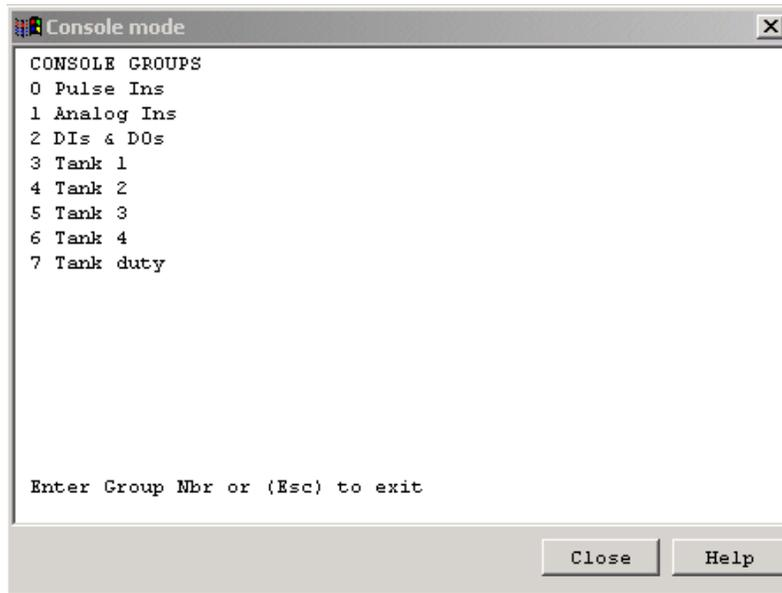

Figure 3–1 Console Mode, Initial Screen
- 5) The initial screen may appear similar to the screen shown in Figure 3–1. Differences may be in the version of the prom and may reflect other capabilities than shown here. See Table 3—1 for Console Mode, Local Commands to use in editing the setup screens.